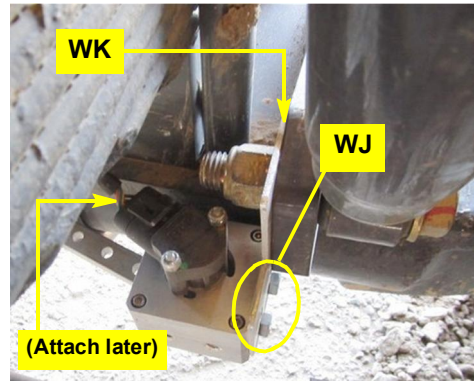

Figure 2a: WAS mounting bracket installed
- a. Mount WAS assembly bracket **WK** behind the right side shock absorber lower nut. Set the bracket with its two WAS assembly mounting holes downward and rearward (Figure 2a).
Using hardware **WJ**, mount the WAS assembly—arm downward and inward—on bracket **WK** (Figure 2a).
*Figure 2a shows the WAS cable already connected. You will connect your cable later.*
Figures 2a to 2c show an Allen bolt holding the sensor bracket SC. Your machine may have a hex head bolt in this location (Figure 2a left inset).
- a. Locate and loosen the bolt to the right of the tilt gas strut on the metal steering column frame (Figure 2a). Slide the prepared steering wheel switch bracket SC under the bolt's washer and tighten the bolt (Figure 2a insets). Adjust the bend and twist so that the switch hole aligns with the steering shaft.
Figure 2a with inset: Installed switch bracket